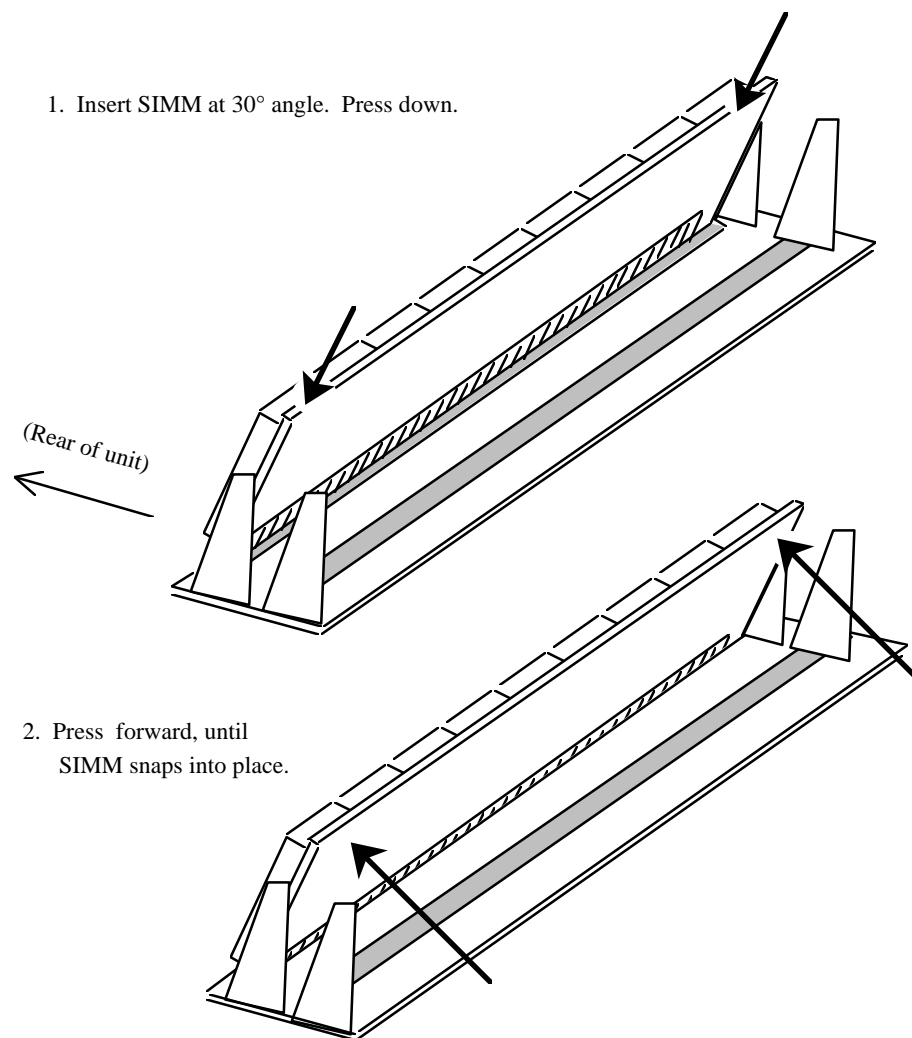

Figure 38 - Inserting SIMM into Socket
7. Hold the SIMM by its edges, with the memory chips facing the front of the MAXserver, then insert the SIMM into the slot. Angle the top of the SIMM (about 30°) toward the rear of the MAXserver (see Figure 38).